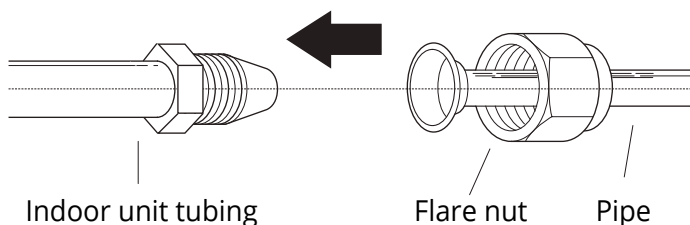

Fig. 6.7
1. Align the center of the two pipes that you will connect. See **Fig. 6.7**.